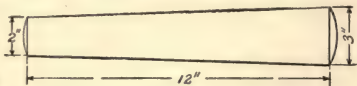

FIG. 38.
85. Taper of Keys.—In keys, cotters, and stake wedges, it is customary to express the inclinations as a certain amount per foot, or taper per foot. Thus, in Fig. 38, the inclination would be $3 - 2 = 1$ inch in 12 inches,